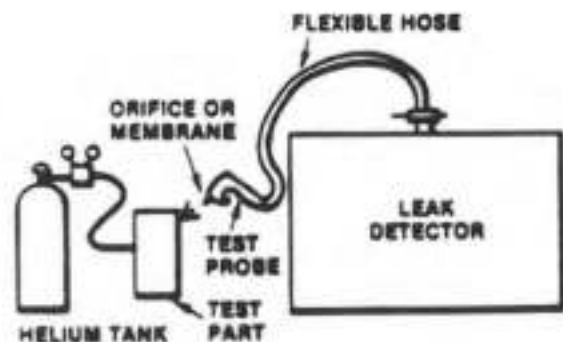

Figure 1-4. Test piece pressurized; detector probe used to locate leak.
(2) TEST PIECE PRESSURIZED (FIGURE 1-4)